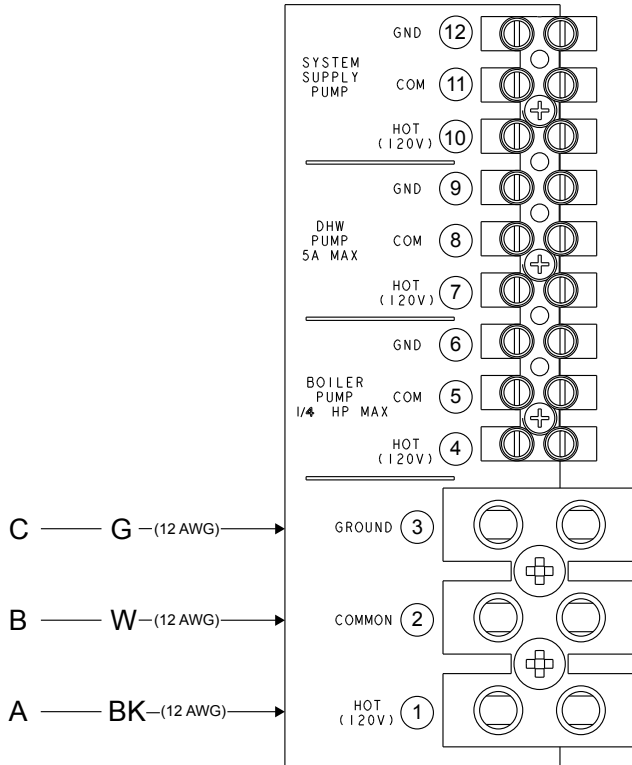
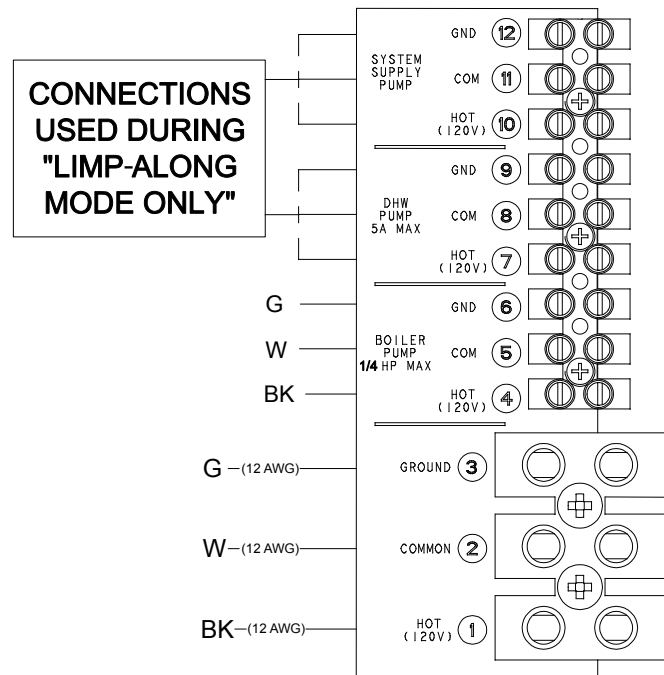

Figure 17. Wiring Connections
Figure 22. VERSA Follower
All 120VAC field wiring connections to the XPak FT are made inside the rear wiring box. See Figure 17 on page 23. Low-voltage wiring is connected to the VERSA control board and the Platform Ignition Module (PIM) at the front of the unit. Sensors, enable/disable contacts, (optional) 0-10 VDC control wiring, and cascade connections are wired into the VERSA and PIM field wiring plugs. See the wiring diagram, Figure 45 on page 45.
⚠ WARNING: Using a multi-meter, check the following voltages at the circuit breaker panel prior to connecting any equipment. Make sure proper polarity is followed and house ground is proven. See Figure 17 on page 23.
Refer to Figure 17 through Figure 22.
1. Once the primary boiler has been identified, additional boilers will be designated as follower boilers. Ensure DIP switch 2 on each follower VERSA is set to the OFF/Down position. See Figure 22 on page 26.